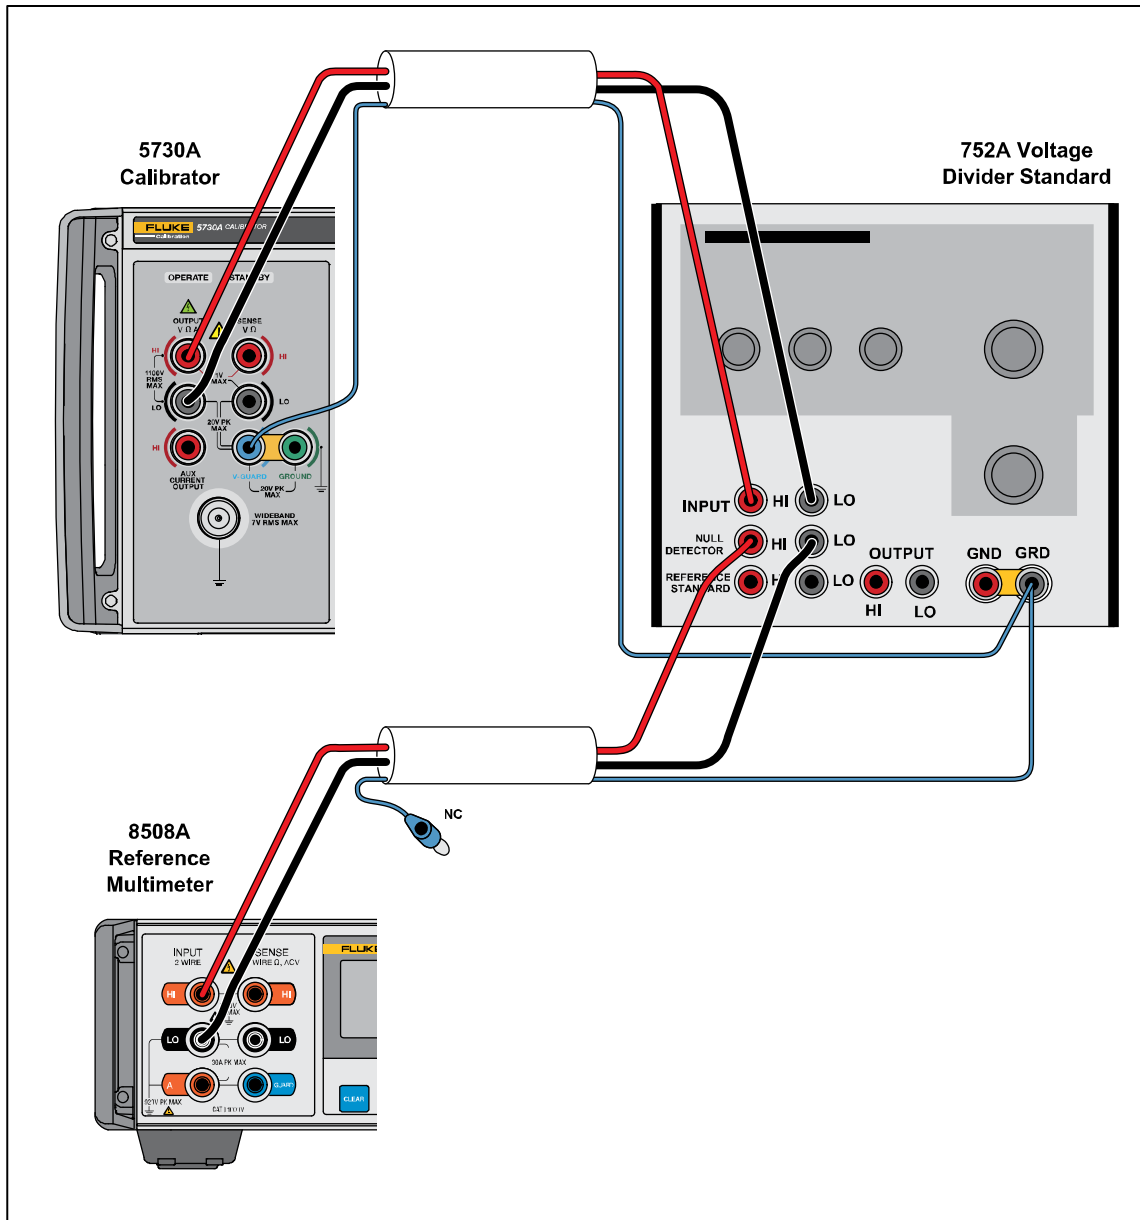

Figure 12. Zero Null Detector Connection
1. Connect the Product, 752A, and 8508A as shown in Figure 12.